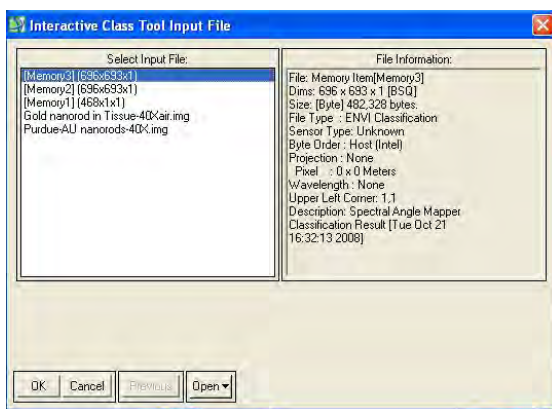

Figure 24. Selecting image to overlay
2. The Interactive Class Tool Input File dialogue box opens (see Figure 24)